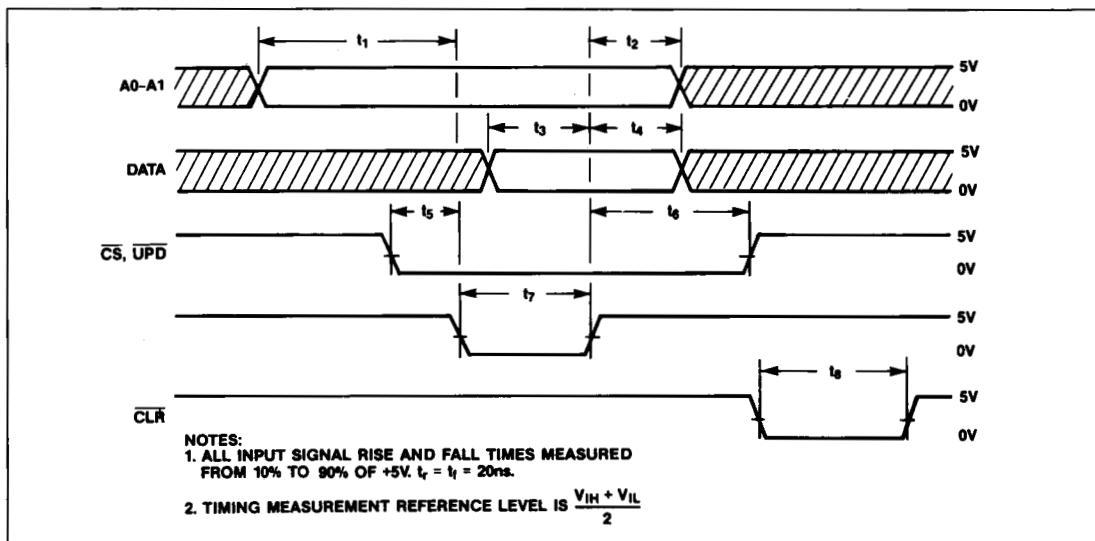

Figure 2. Timing Diagram for MX7537
Figure 2 shows the timing diagram for the MX7537. A1 and A0 select the most-significant (MS) or the least-significant (LS) input registers for DAC A or DAC B (Table 1). When loading the MS register, DB3 is the MSB of the 12-bit data input. Similarly, when the LS register is loaded, DBO is the LSB. Data is loaded into the DAC when CS and WR both go low. CLR and UPD must be kept high while the data is loaded. When CLR is low, all registers are cleared without regard to the state of other control signals. When UPD and WR are low, the DAC registers are updated simultaneously from the input registers. When UPD, CS and WR are low, the DAC registers are transparent and load the